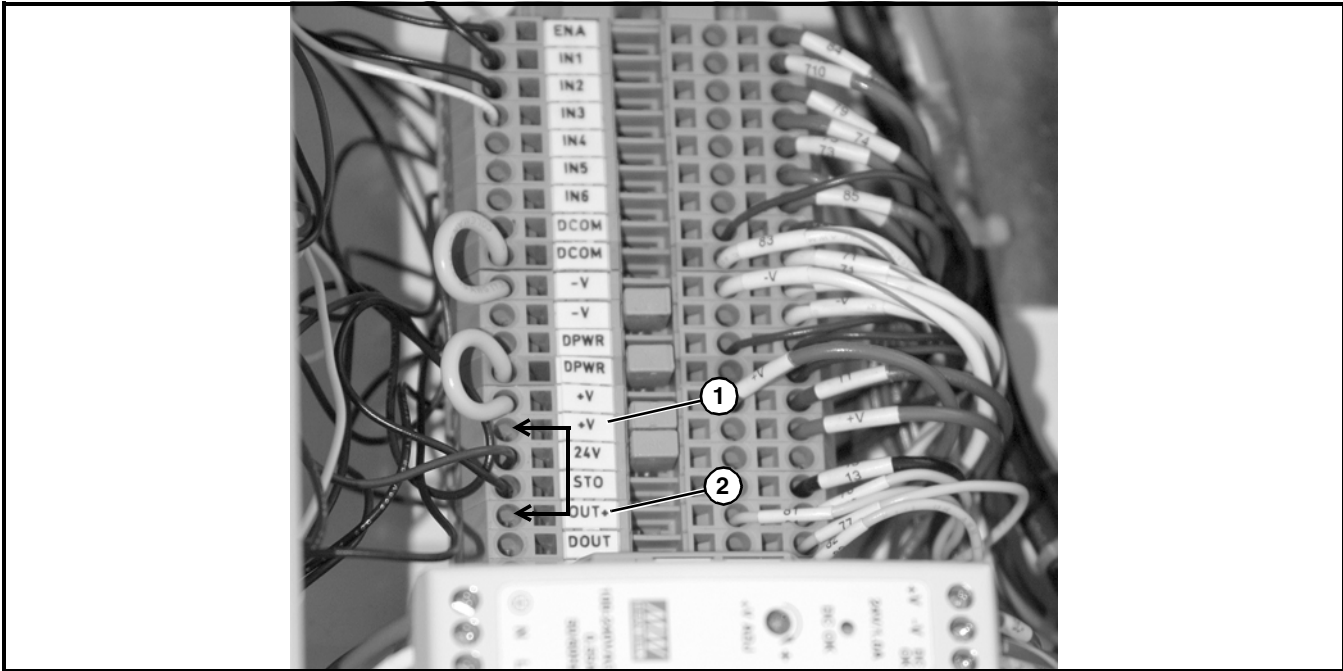

Figure 30
2. Add jumper from +V (Figure 30, item 1) to OUT + (output) (Figure 30, item 2).